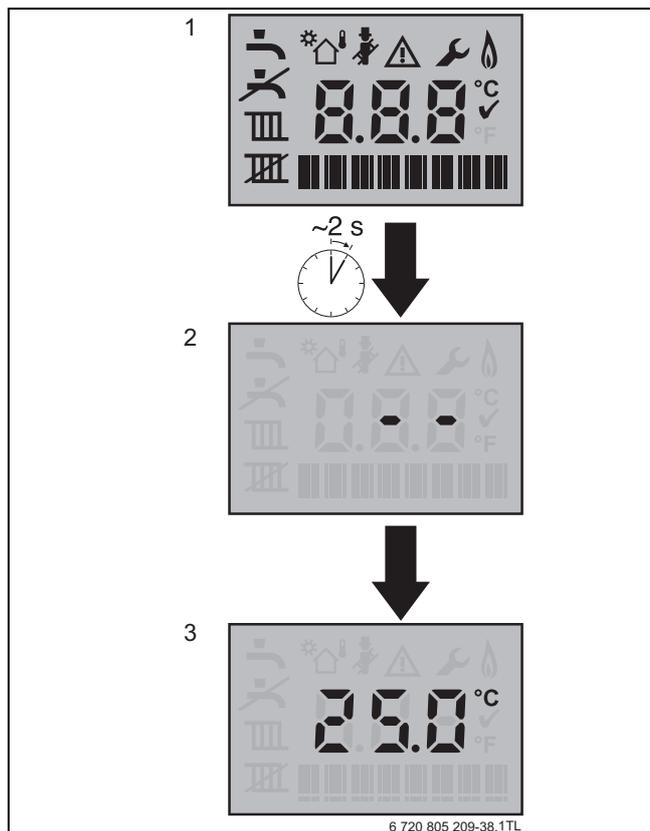

Fig. 69 Start up screens
- ▶ Turn on the mains power supply, initially the “Boiler start up screens” will be displayed (see figure 69:)